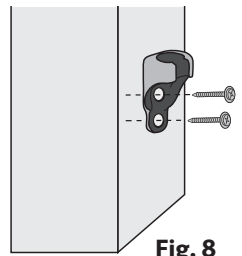

Fig. 8
- A.** Install the Receivers (**Fig. 8**) approximately 5 in. (13 cm) below where the Shade will stop to allow for proper tension of Bungee cord.